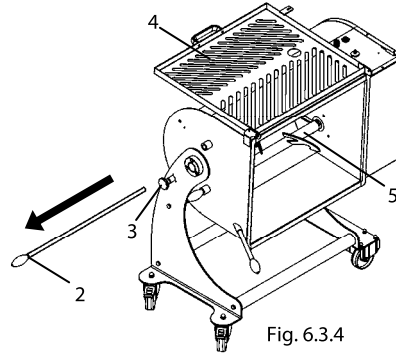

Fig. 6.3.4
- Unhook and remove the pins which lock the mixing blades “2” in position Fig. 6.3.3 and “2” Fig. 6.3.4.
- Unscrew the bowl locking knob “3” anti-clockwise Fig. 6.3.4.
- Open the grille “4” Fig. 6.3.4 and proceed with removing the mixing blades.
- Grip the mixing blades one at a time “5” Fig. 6.3.4 and pull outwards to remove.